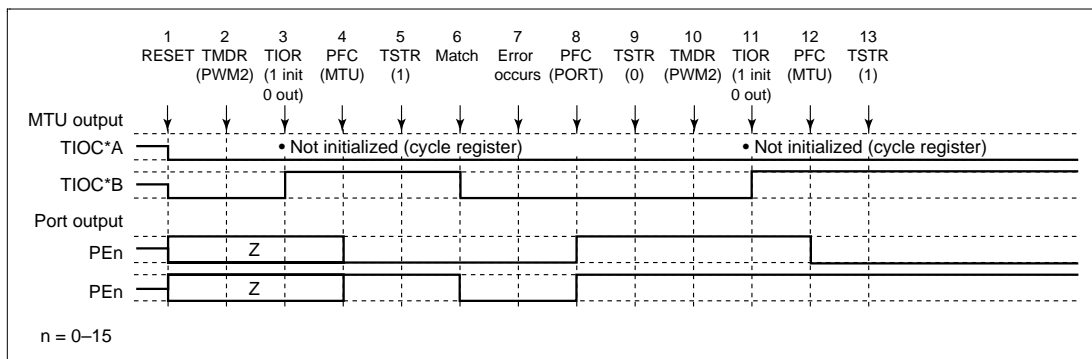

Figure 10.70 Error Occurrence in PWM Mode 2, Recovery in PWM Mode 2
(11) Operation when Error Occurs during PWM Mode 2 Operation, and Operation is Restarted in PWM Mode 2: Figure 10.70 shows an explanatory diagram of the case where an error occurs in PWM mode 2 and operation is restarted in PWM mode 2 after re-setting.